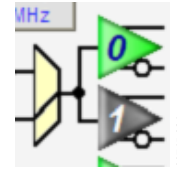
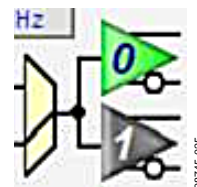
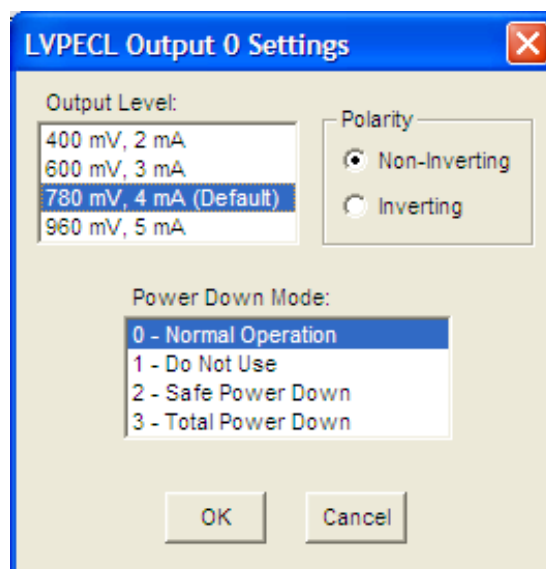

Figure 7. Driver Symbol
Figure 19. OUT0 Through OUT5 Output Driver Symbols
Figure 20. LVPECL Output 0 Driver Window
11. Power down unused drivers, click the numbered triangular symbol on the right side of the main window (see Figure 7), select **2 - Safe Power Down**, and click **OK** (see Figure 20).
The **LVPECL Output 0 Settings** window shown in Figure 20 is accessed by clicking the OUT0 through OUT5 output driver symbols on the right side of the main window (see Figure 19).